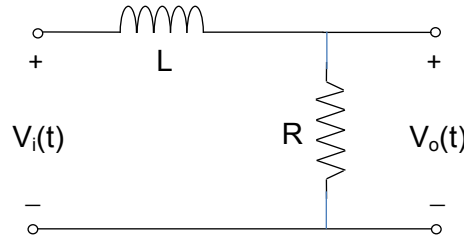

Figure 2. Low-pass RL circuit.
For part III of this lab, consider the circuit shown in Figure 2. The input voltage is $V_i(t)$ and the output voltage is $V_o(t)$.
- Find an analytical expression for the amplitude of the frequency response of the circuit in Figure 2. Your response will be a function of frequency ω , as well as R and L . Determine the low-frequency ($\omega=0$) gain, high frequency ($\omega \rightarrow \infty$) gain, and the frequency at which the gain $20 \log_{10}(|V_o|/|V_i|) = 20 \log_{10}(1/\sqrt{2}) = -3\text{dB}$ (also called the *half power point*, *corner frequency*, *break frequency*, *3dB frequency* or *cutoff frequency*).
Construct the circuit shown in Figure 2 using nominal values of $R=300\Omega$ and $L=1\text{mH}$. Using the DMM and the RLC meter, measure the actual values of R and L that you use in your circuit, and record these values in your lab notebook for later analysis. (Note: The instructor or TA will show you how to use the RLC meter.)
1. Diagram of the circuit (Fig. 2). Circuit diagrams can be cut from the lab assignment and pasted into your report.